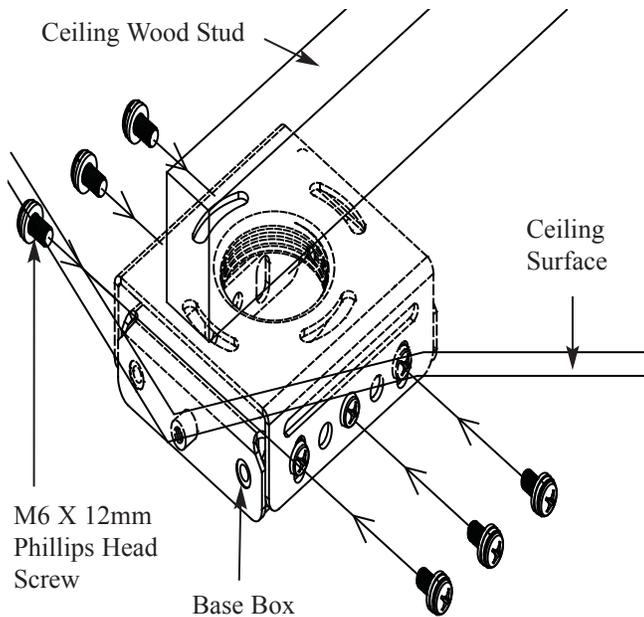

Figure 3
4. Attach the Base Box to the Upper Bridge and secure with the six (6) M6 x 12mm Phillips Head screws (Figure 3). DO NOT TIGHTEN THESE SCREWS YET.